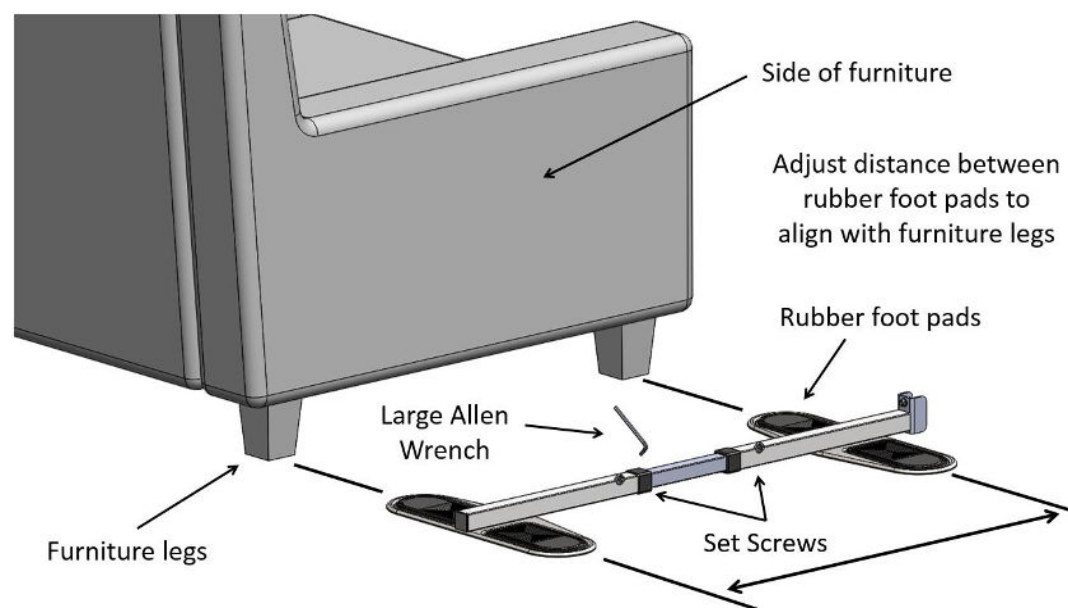

FIGURE 3
3. Position the Rubber foot pads at the same distance of the Furniture legs spacing and tighten the Set Screws with the Large Allen Wrench as shown in Figure 3. The Furniture legs should sit on the center of the Rubber foot pads.